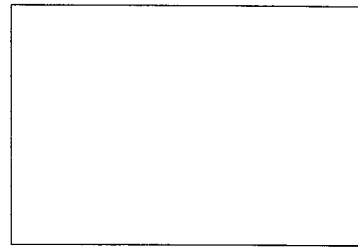

Fig. 4: Connecting to and disconnecting the transmitter from the microphone.
4.2 Connecting and Disconnecting the Transmitter (Refer to fig. 4)